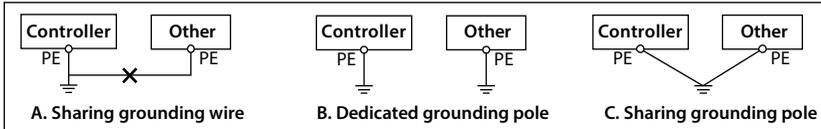

Figure 4-19 Grounding method
Do not share the grounding wire with other devices (A). HD3L can share grounding pole with other devices (C). It achieves the best effect if HD3L and other devices use dedicated grounding poles (B), as shown in Figure 4-19.